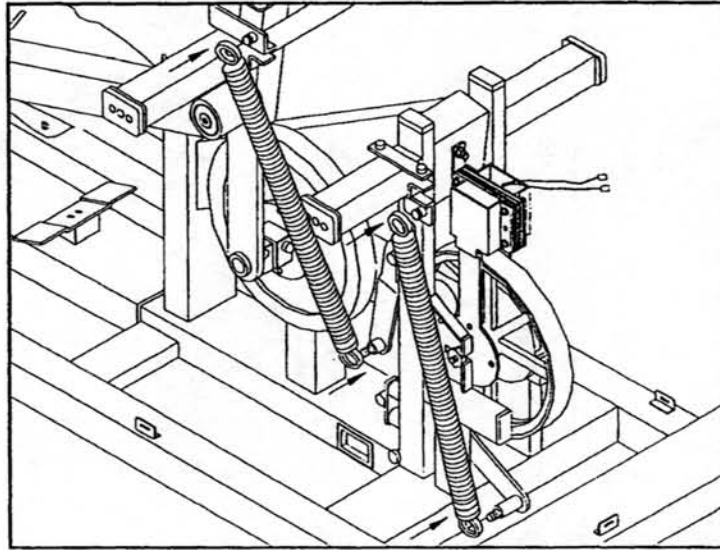

Fig.15-3
1. Replace two SPRINGS and install them on the FRAME and put the springs inserting on connected position of the IDLER WHEEL (see fig.15-3).